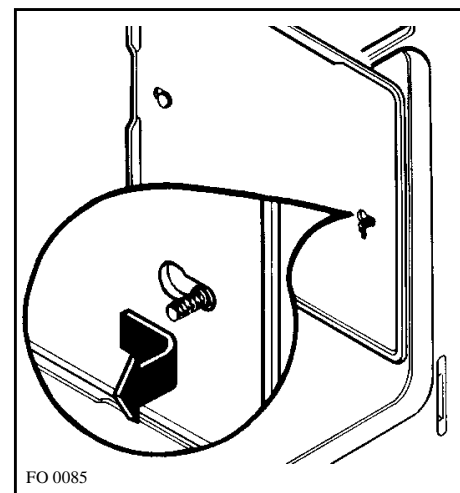

Fig. 9
2. Slide the side panels toward yourself to release them from their retaining pins, then lift away from the oven wall (Fig. 9).